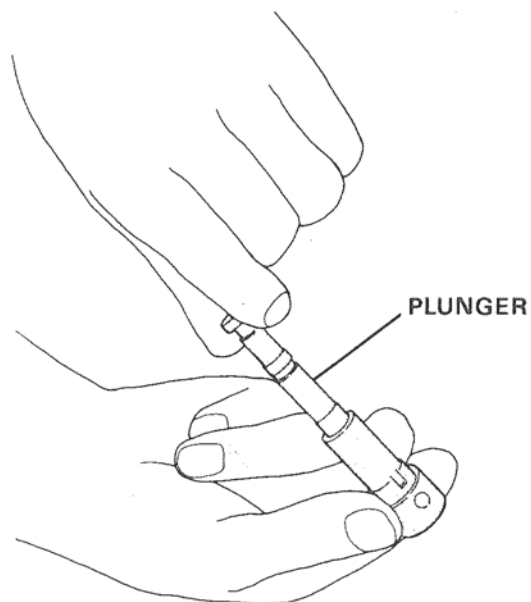

Figure 34. Checking Plunger.
1. Check sliding surface of plunger for damage; replace entire delivery valve assembly if damaged. Figure 34.